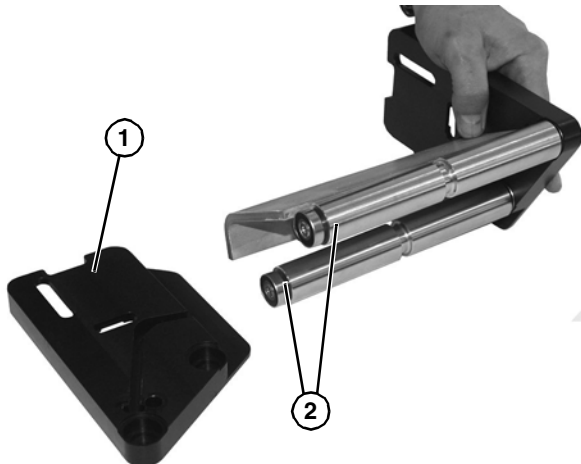

Figure 51
4. Slide off end plate (Figure 51, item 1).
5. Remove idler roller bearing assemblies (Figure 51, item 2) from each end plate.